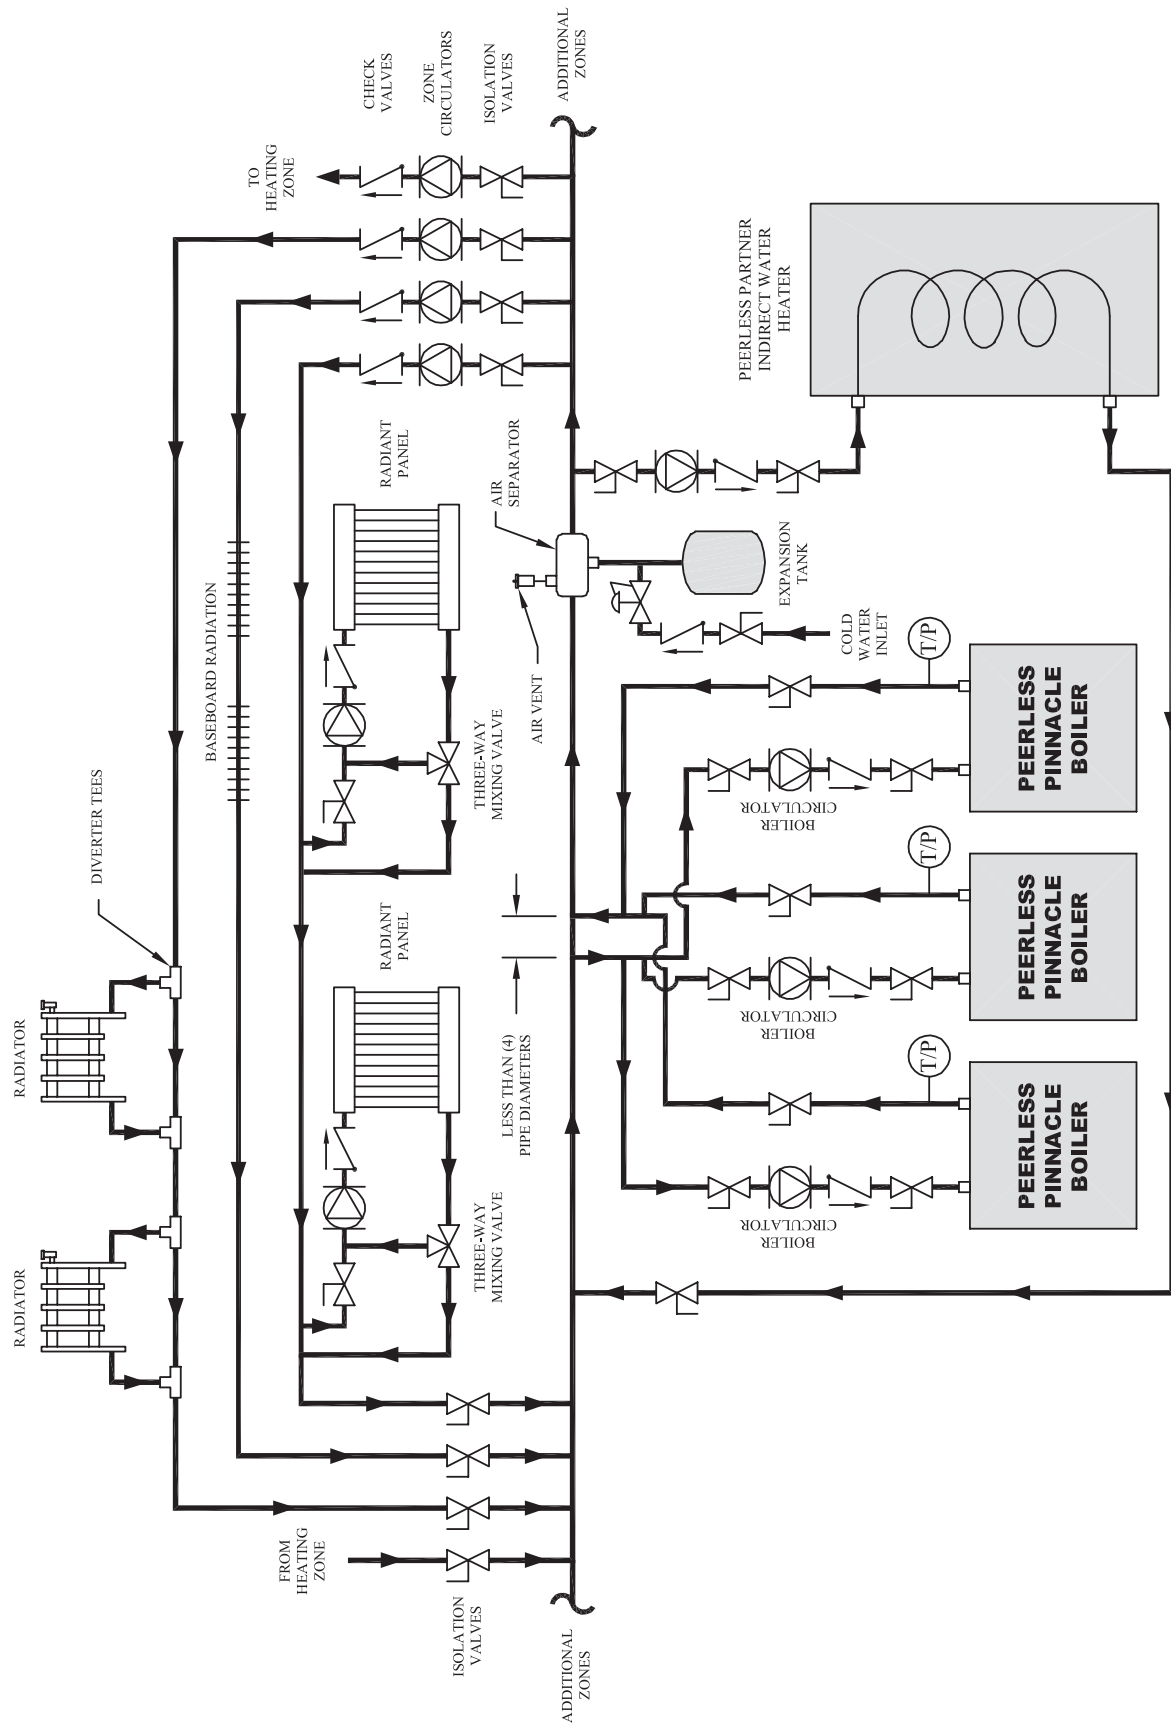

Figure 3.6: Three Boilers, Primary/Secondary with Five Zones (Zone Circulator)
- Figure 3.6 shows a system in which several different types of loads and multiple boilers are shown. This system illustrates how different temperature zones can be supplied from the same source by mixing down the temperature using a three way mixing valve. Radiant flooring typically requires much lower temperatures than baseboard radiation and indirect water heating. Notice that a third boiler is included in this system.